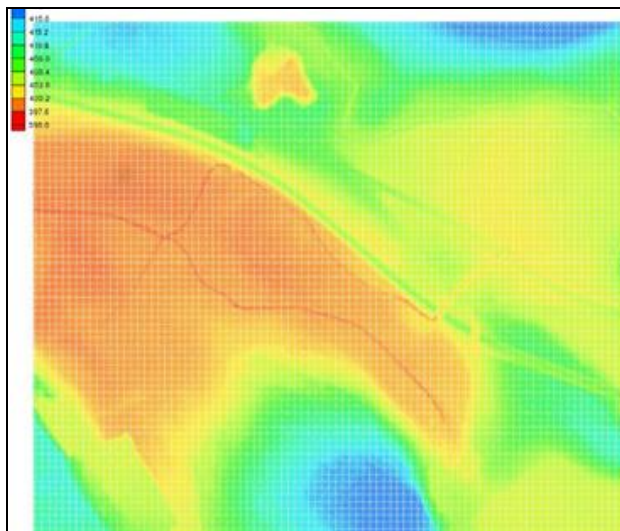

Figure 15 Scatter set for raster data
5. Click the **Finish** button to close the *File Import Wizard*. SMS reads in the raster data and converts each point to a scattered vertex. This may take a few minutes due to the fact that there are over 561000 points in this dataset. (Figure 15)
6. Repeat steps 1-3 to read in the “Raster-in.xyz” file again but this time with filtering so as to then compare the two resulting scatter sets to understand the differences made by filtering. The data will be loaded as “Raster-in (2)”.
9. Click the **Finish** button to close the *File Import Wizard*. SMS will create the second scattered dataset. Its display will appear almost identical to the other one. (Figure 15). It may be necessary to hide the file which was first imported.